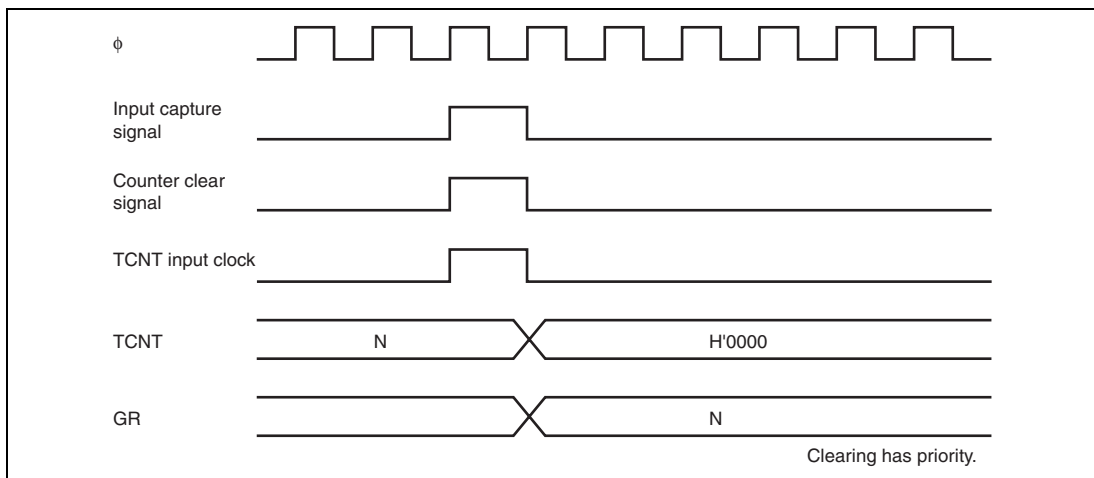

Figure 14.57 Contention between Count Clearing and Increment Operations by Input Capture
6. Contention between Count Clearing and Increment Operations by Input Capture: If an input capture and increment signals are simultaneously generated, count clearing by the input capture operation has priority without an increment operation. The TCNT contents before clearing counter are transferred to GR. Figure 14.57 shows the timing in this case.